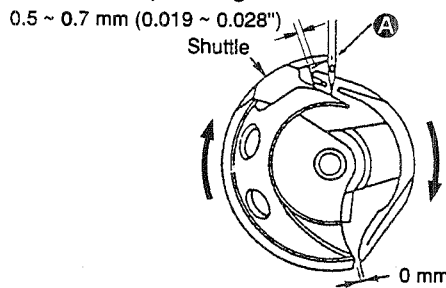

Fig. 3-2
When the state is as described in the above 1), the center of the needle coincides with the point of the shuttle at **A**. (Fig. 3-2)
6) The clearance between the shuttle and shuttle driver should be 0.5 to 0.7 mm. (Fig. 3-2)
<p>1) Referring to Standard Adjustment (1) Adjusting the height of the needle bar, make the lower marker line engraved on the needle bar flush with the bottom end of the bushing.</p> <p>2) and 3) Loosen setscrew ① of the shuttle driver, and adjust the rotational and longitudinal directions of the shuttle driver.</p> <p>[Caution] Ensure to turn the shuttle in the arrowed direction as shown in Fig. 3-2 when adjusting the timing of the shuttle.</p> <p>4) Loosen setscrew ② of the shuttle race, and turn eccentric shaft ③ to make adjustment.</p> <p>5) Loosen setscrew ④ to perform adjustment. Enough care should be exercised when performing the adjustment described in 4), namely the adjustment of the clearance between the needle and the point of the shuttle.</p> <p>[Note] The clearance in the rotational direction between the shuttle and the shuttle driver should be 0.5 mm to 0.7 mm as shown in Fig. 3-2. Adjust the clearance provided between the shuttle and the shuttle driver by tapping portion ⑤. After adjustment, check that point ⑥ is evenly spaced vertically with respect to the shuttle.</p>  <p>The diagram shows a top-down view of a shuttle mechanism. It consists of a central circular hub with a smaller inner circle. Surrounding this is a larger circular frame with several curved internal components. Two specific points are labeled: point ⑤ is located on the right side of the outer frame, and point ⑥ is located at the top of the frame, near a curved internal part.</p> <p>Fig. 3-6</p>	<p>1) and 2) For floppy materials, slightly retard the hook timing. For heavy-weight materials, on the contrary, slightly advance it. (In prevention of stitch skipping)</p> <p>3) If the clearance is more than 0 mm, the needle will be bent in the direction of the shuttle point, causing scratches on the shuttle point and the needle. On the contrary, however, excessive contact between the needle and the shuttle driver may cause stitch skipping.</p> <p>4) If the clearance is greater than 0.05 to 0.1 mm, stitch skipping will occur. If it is smaller than the specified values, the needle strikes the shuttle point and scratches occur, leading to thread breakage or fine splits of thread.</p> <p>5) If the clearance is smaller than 7.5 mm, the needle thread will not be fully spread, often causing the needle thread to bite into the shuttle.</p> <p>○ If the clearance between the shuttle drive and the shuttle is greater than 0.5 to 0.7 mm, the shuttle noise will be louder. On the contrary, if the clearance is not enough, poorly tensed stitches will result when sewing with a thick thread.</p>